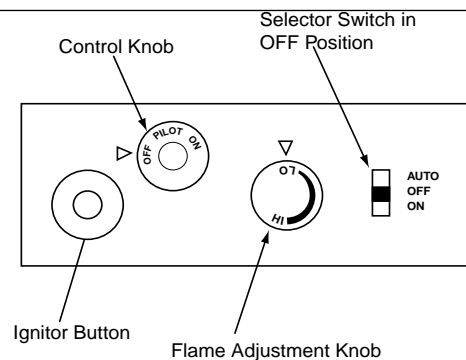

Figure 17 - Control Knob and Ignitor Button Location, Manual Controlled
4. Press in and turn control knob clockwise  to the OFF position (see Figure 17).
5. Wait five (5) minutes to clear out any gas. Then smell for gas, including near the floor. If you smell gas, **STOP!** Follow "B" in the safety information, starting in column 1 of this page. If you don't smell gas, go to the next step.
6. Press in and turn control knob counterclockwise  to the PILOT position. Press in control knob for five (5) seconds (see Figure 17).